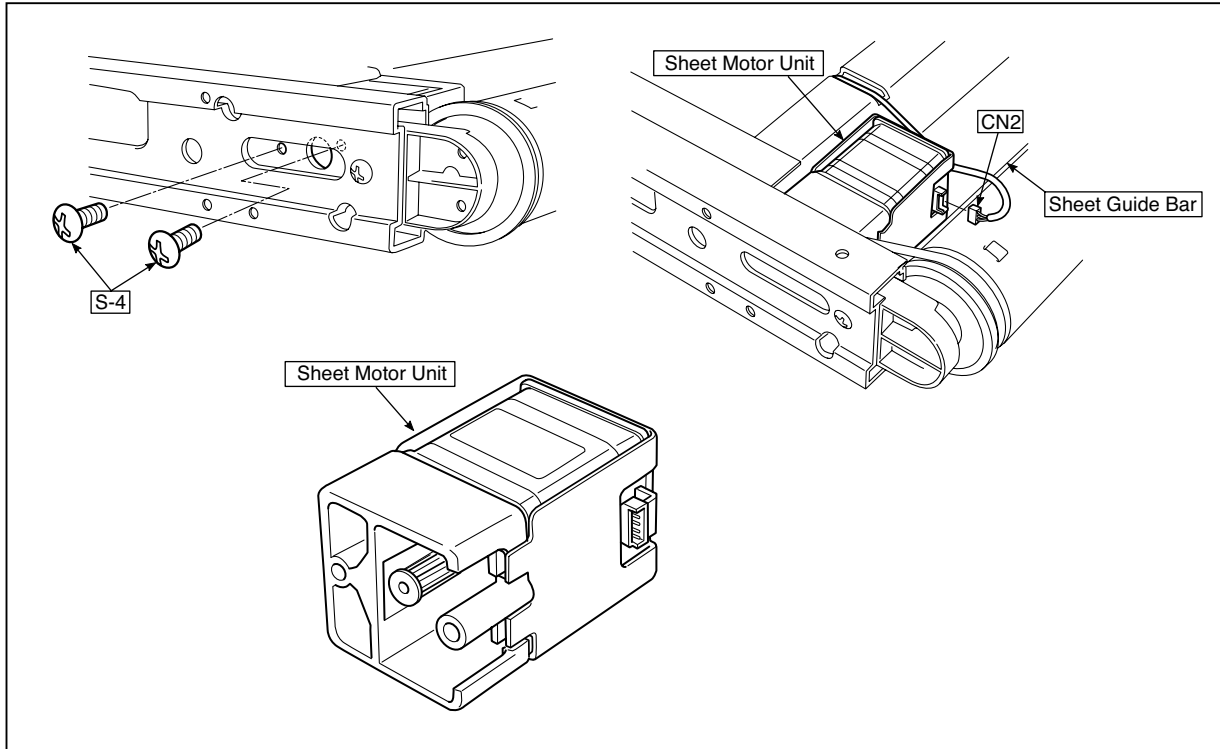

Fig.32
14) Replace the Sheet Motor Unit. (See Fig. 32)
1. Remove the "S-4" screws shown in the figure 32.